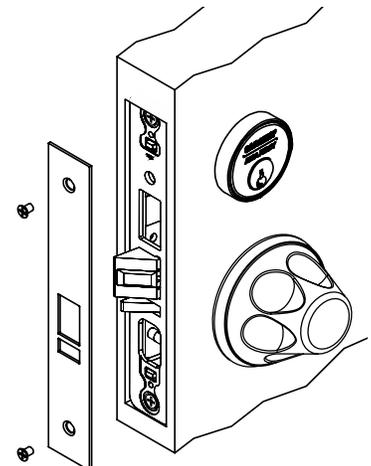

Figure 20
11. Install lock front using two (2) front screws. (Figure 20)